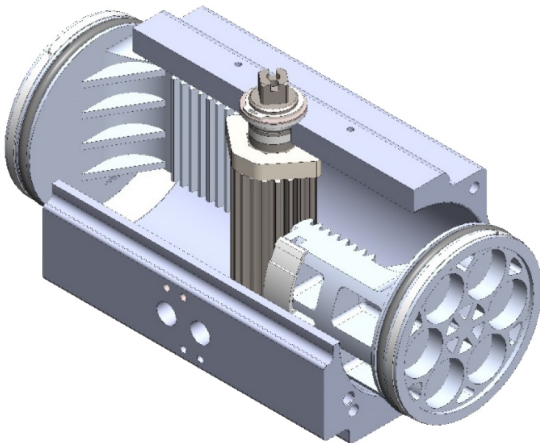

Figure 10: Removing Pistons
1. Rotate the pinion using a wrench on the top pinion square to drive the pistons apart until they are free of the actuator body. See figure 10.